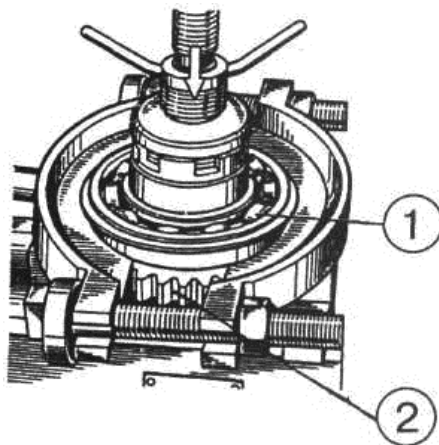

Figure 4.90
c) press bearing 1 (Figure 4.90) off gear 2;